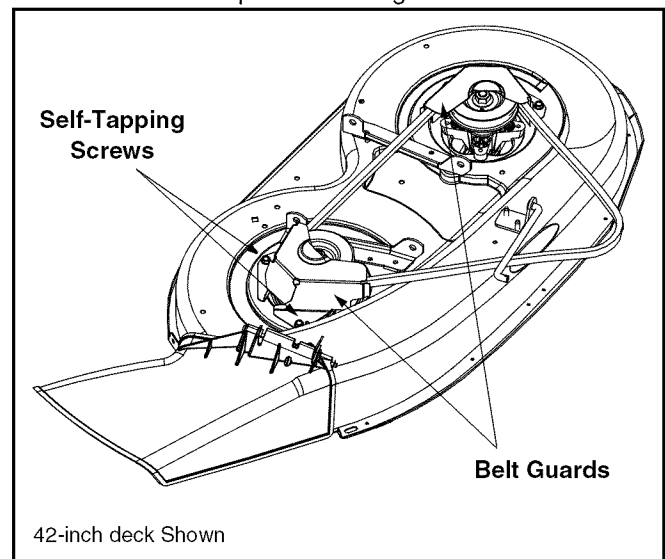

Figure 32
- Remove the belt guards (located over each spindle pulley) by removing the self-tapping screws which secure them in place. See Figure 32.
- Remove the belt guards (located over each outer spindle pulley) by removing the self-tapping screws which secure them in place. Refer Figure 32.